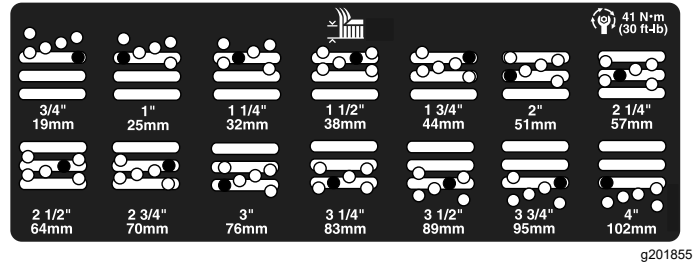

Figure 7
5. Move the chamber to the desired height of cut and install a spacer into the designated height-of-cut hole and slot (Figure 7).